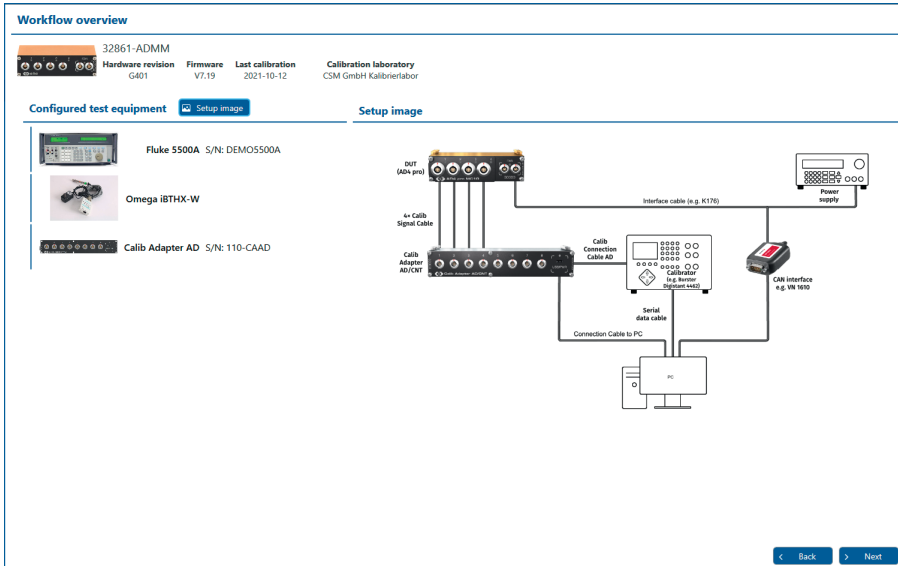

Fig. 2-11: **Workflow overview** window
**i** To check the sensor supply of the relevant AD/HV AD modules, the corresponding option has to be enabled both in the **Workflow overview** (Fig. 2-11) and in the **Calibration setup** menu.
- ☞ Check the details, then click on **Next** (Fig. 2-11).